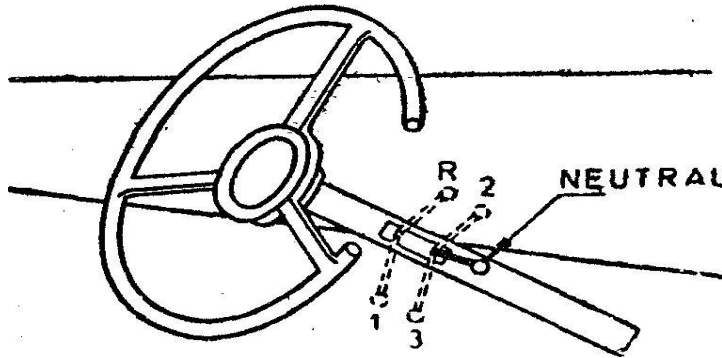

Fig. 2 Illustration for Gear Levers Fixed to Steering Column
2.1 The circles indicate the positions of the individual gears starting from the gear lever end. The reverse gear is to the left of the front gears or in the same plane as the first gear and can be in the direction of the vehicle movement or in the direction opposite to it. These gear positions are also applicable to gear lever fixed to the steering column, an example of which is shown in Fig. 2.